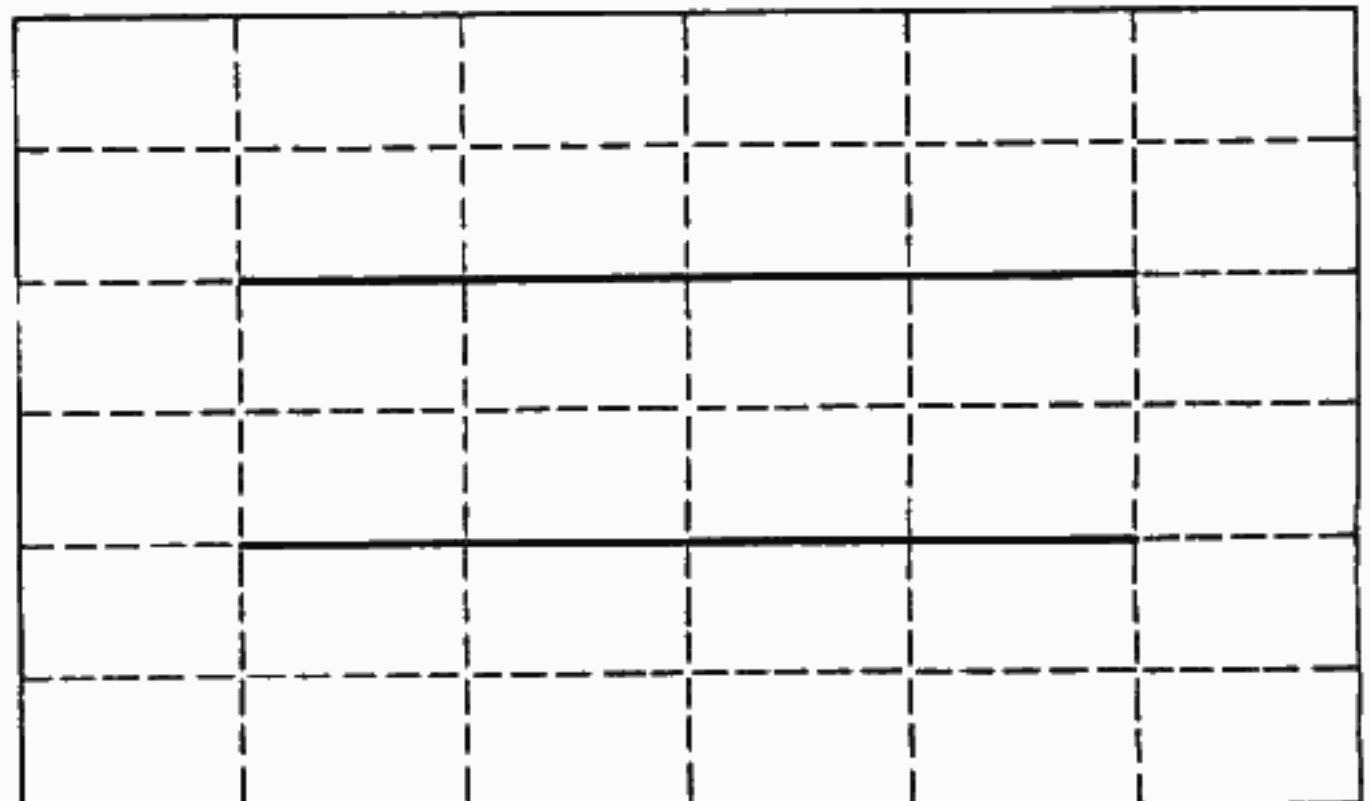

Figure 2
8. MAP FOLDING (Figures 2 - 4) - for a starter, get a map or a piece of practice paper, some glue or transparent tape and a razor blade. Now we're ready to start: